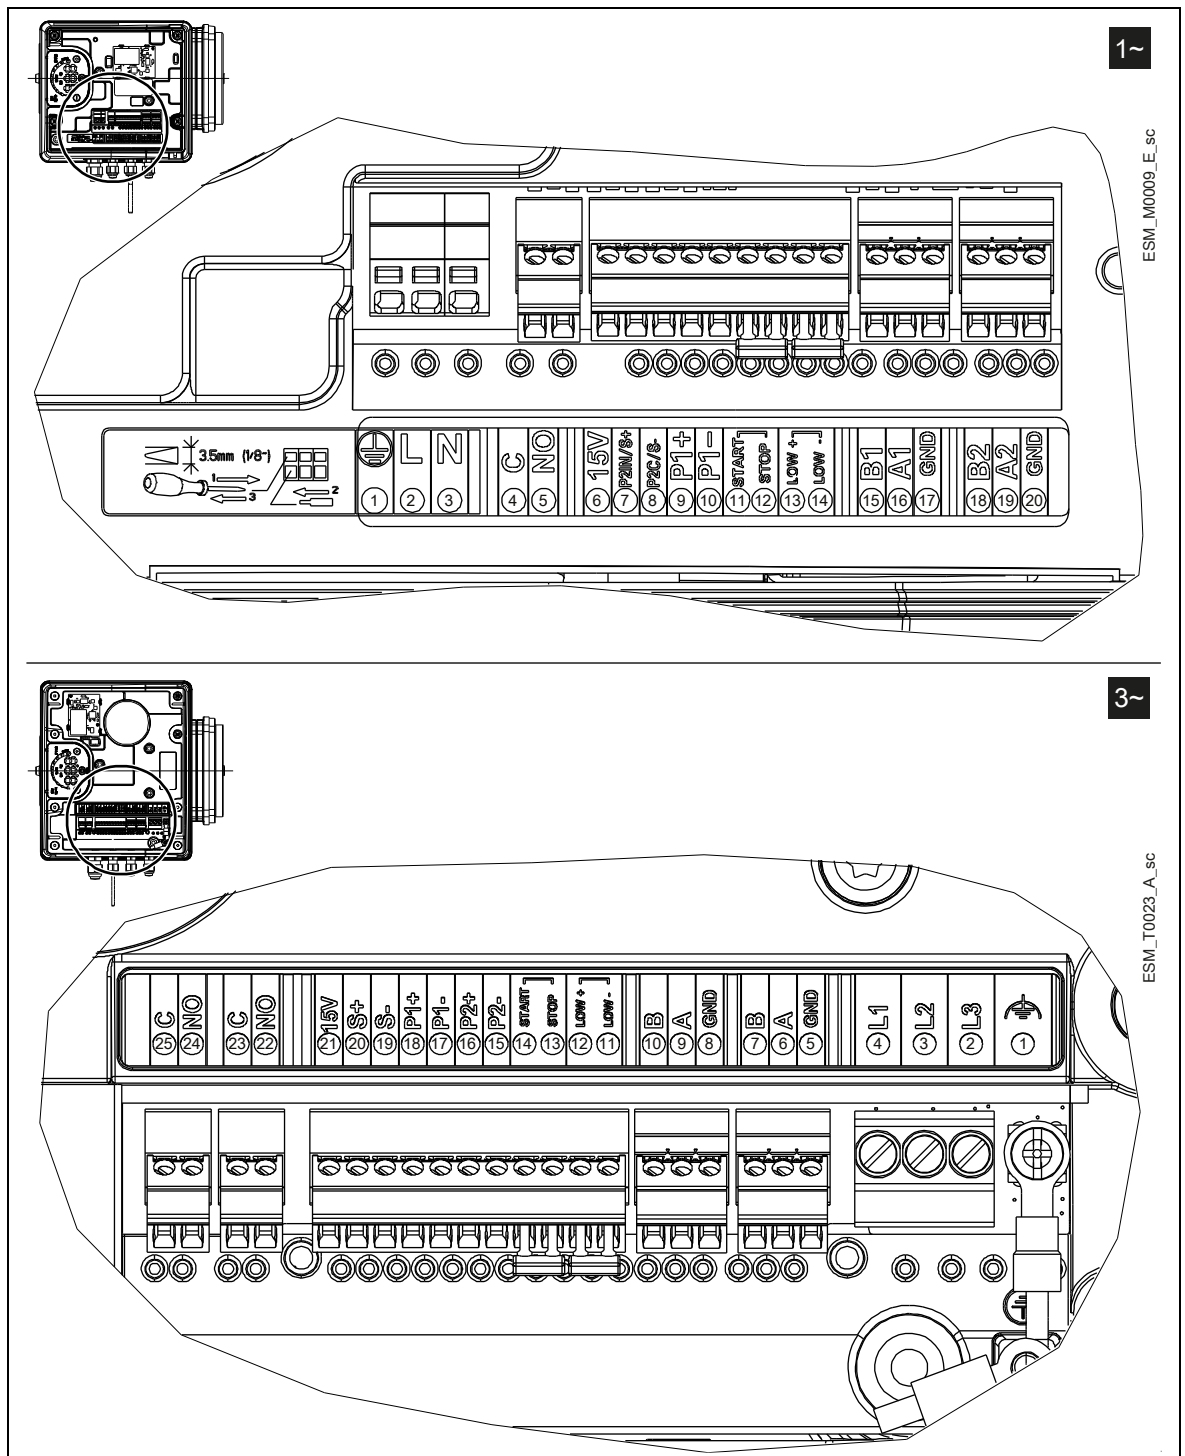

Figure 15: Connection label
2. Connect the cable according to the wiring diagram.	Fig. 15